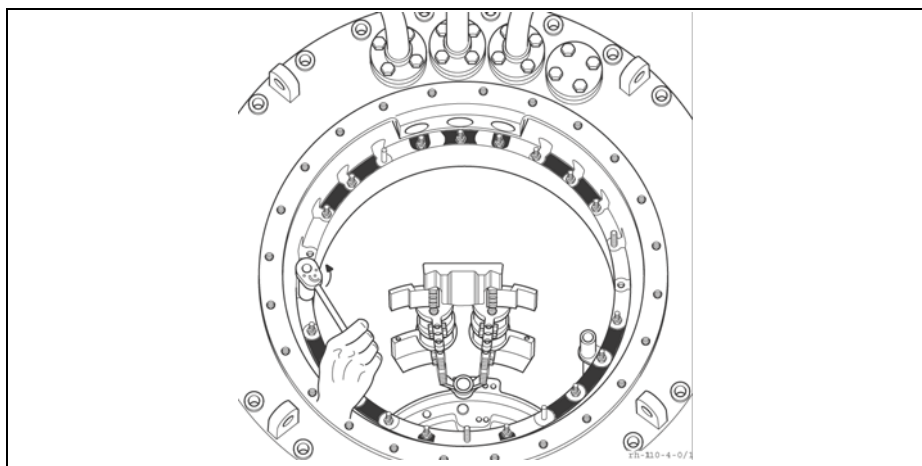

Figure 21 Loosening screw connections
8. Unscrew the remaining screw connections in the on-load tap-changer head (17 nuts M8/wrench 13, spring washers), **Figure 21**.